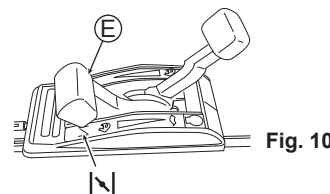

Fig. 10
3. Set Throttle lever (E) to Choking "I/N". (See Fig. 10) (The engine can start by setting the lever at "I/N" when it is warm.)